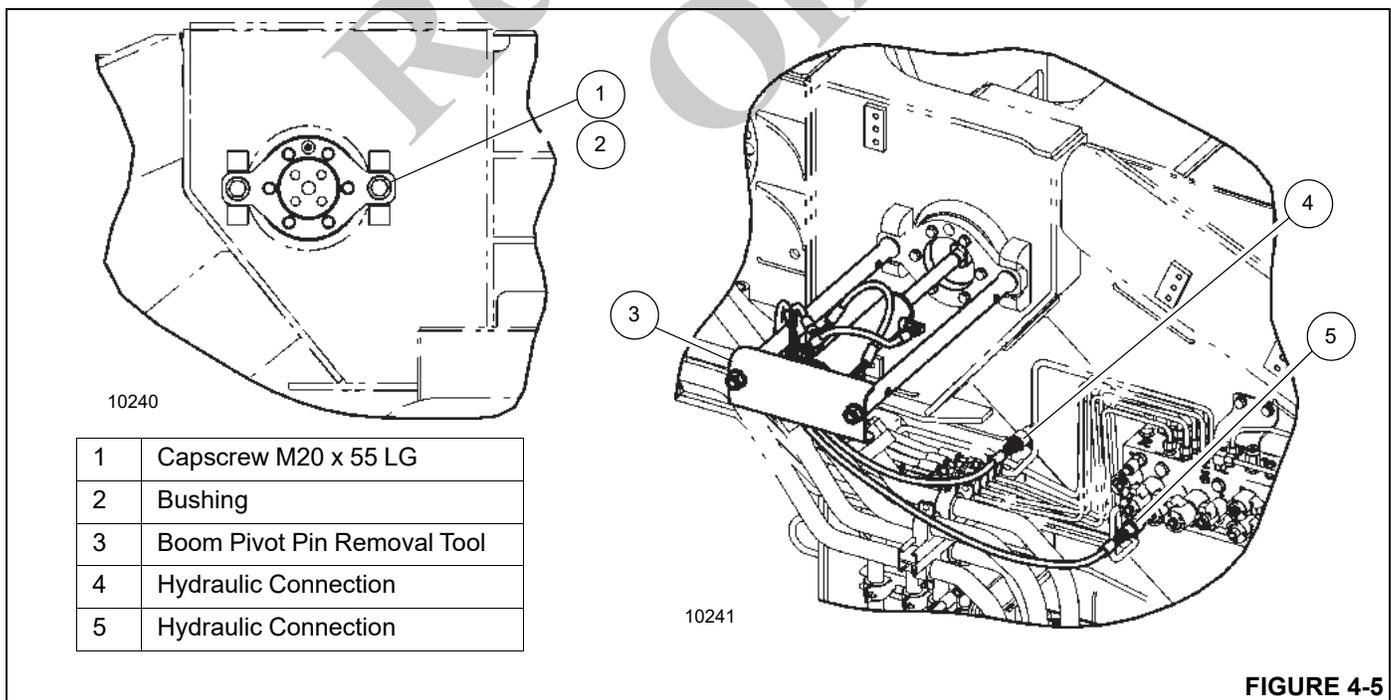
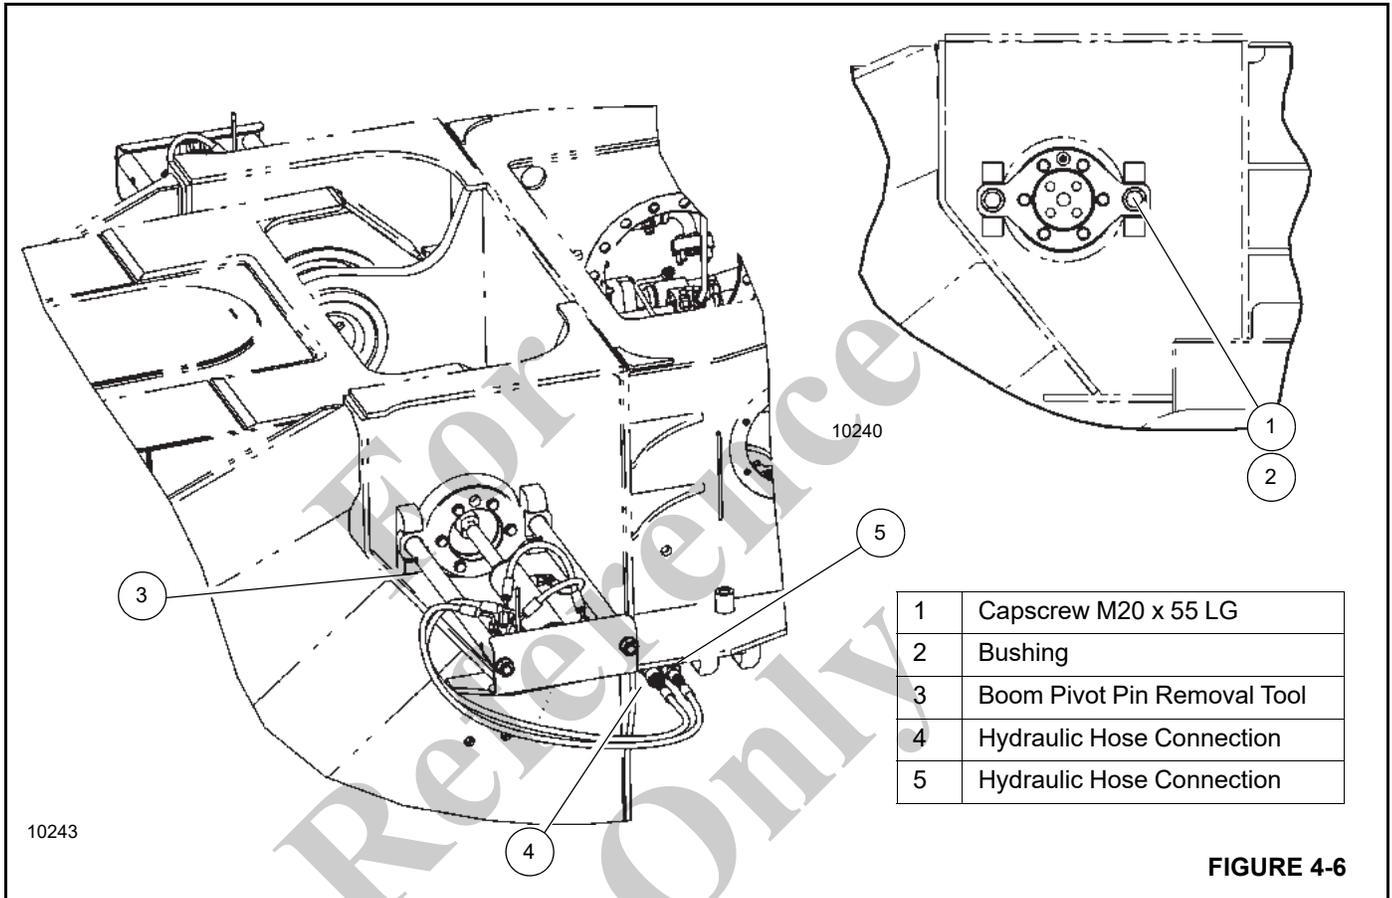

FIGURE 4-5
FIGURE 4-6
17. Install the boom pivot pin removal tool (3, Figure 4-5) on the right side of the superstructure as follows:
- b. Remove capscrews (1, Figure 4-5) and bushings (2) from the pivot pin.
- c. Remove the nuts from the end of the push rods. Install the pin removal tool (3) in the capscrew holes. Thread the rods into the capscrew holes.
18. Install the boom pin removal tool (3, Figure 4-6) to the left (cab) side of the superstructure as follows:
- a. Install the boom pivot pin removal tool on the right side of the superstructure (Figure 4-5). For more information, see step 17 on page 4-4.
- b. Install the boom pivot pin removal tool on the right side of the superstructure (Figure 4-6). For more information, see step 18 on page 4-5.
- f. For the left (cab) side pin, disconnect the removal tool hydraulic connections (4 and 5, Figure 4-5) and remove the hydraulic tools.
- h. For the left (cab) side pin, secure the pivot pin to the superstructure with busings (2, Figure 4-5) and capscrews (1). Torque the capscrews. For more information, see *Fasteners and Torque Values*, page 1-16.